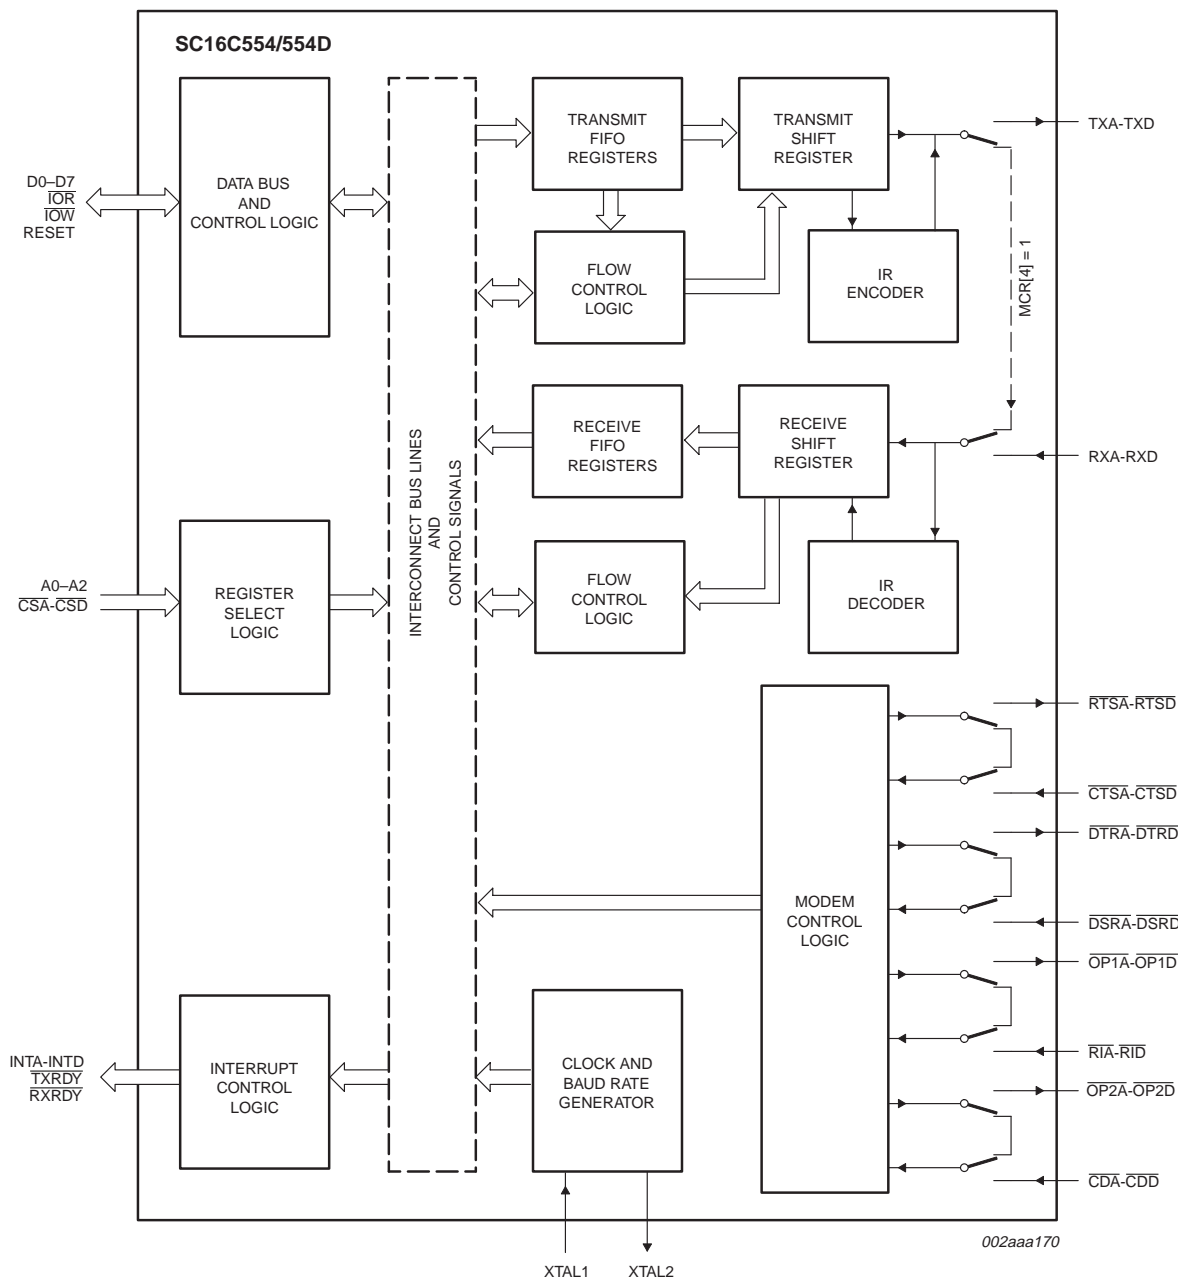

Fig 8. Internal loop-back mode diagram (16 mode).
The internal loop-back capability allows on-board diagnostics. In the loop-back mode, the normal modem interface pins are disconnected and reconfigured for loop-back internally. MCR[0-3] register bits are used for controlling loop-back diagnostic testing. In the loop-back mode, $\overline{OP1}$ and $\overline{OP2}$ in the MCR register (bits 2-3) control the modem \overline{RI} and \overline{CD} inputs, respectively. MCR signals \overline{DTR} and \overline{RTS} (bits 0-1) are used to control the modem \overline{DSR} and \overline{CTS} inputs, respectively. The transmitter output (TX) and the receiver input (RX) are disconnected from their associated interface pins, and instead are connected together internally (see Figure 8). The \overline{CTS} , \overline{DSR} , \overline{CD} , and \overline{RI} are disconnected from their normal modem control input pins, and instead are connected internally to \overline{RTS} , \overline{DTR} , $\overline{OP2}$ and $\overline{OP1}$. Loop-back test data is entered into the transmit holding register via the user data bus interface, D0-D7. The transmit UART serializes the data and passes the serial data to the receive UART via the internal loop-back connection. The receive UART converts the serial data back into parallel data that is then made available at the user data interface D0-D7. The user optionally compares the received data to the initial transmitted data for verifying error-free operation of the UART TX/RX circuits.